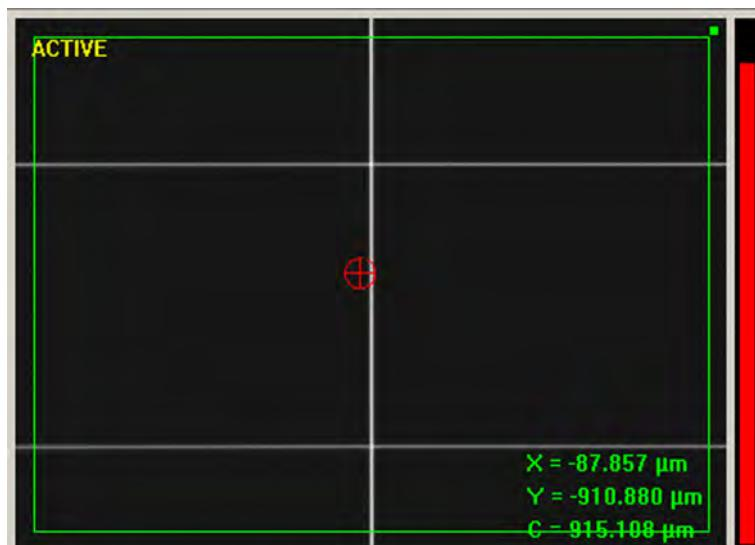

Fig. 18-3
7. Turn the knurled ring **1** of the reference wedge until you can see two horizontal lines (see Fig. 18-3).